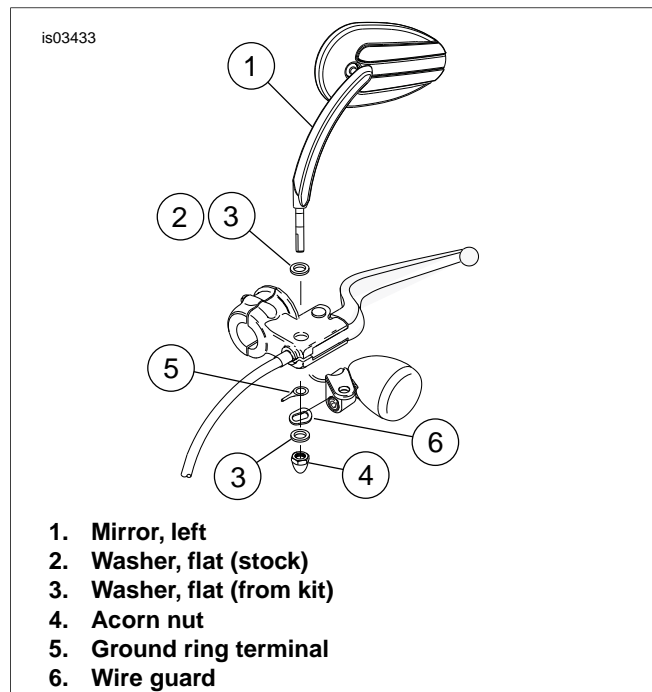

Figure 5. Install L.H. Lighted Mirror (Except Sportster, FXSTS, FLSTS)
1. *Left side:* See Figure 5. Install mirror stem (1) through clutch hand control assembly.
1. *Left side:* See Figure 5. Complete steps from previous subtopic to install left side lighted mirror (clutch hand control assembly).